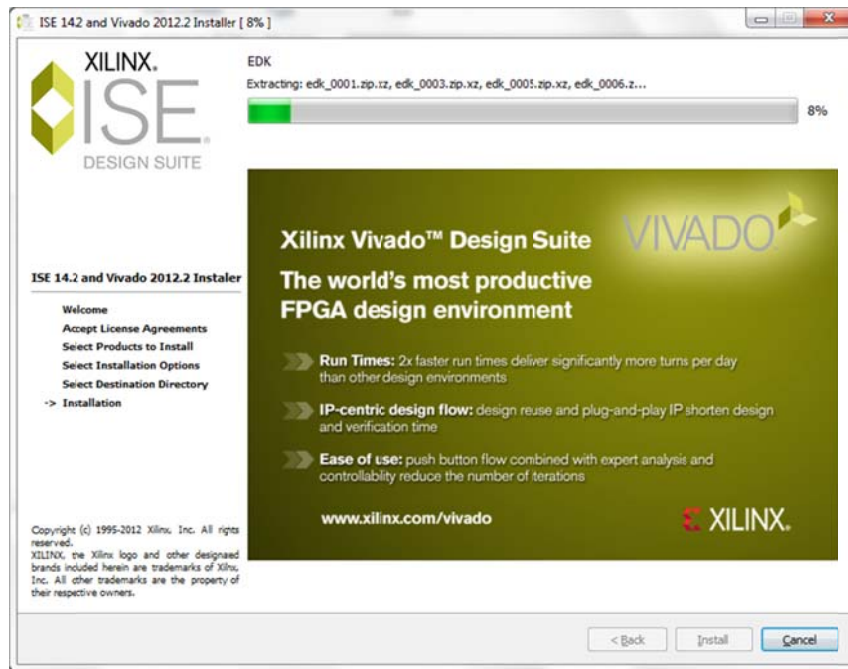
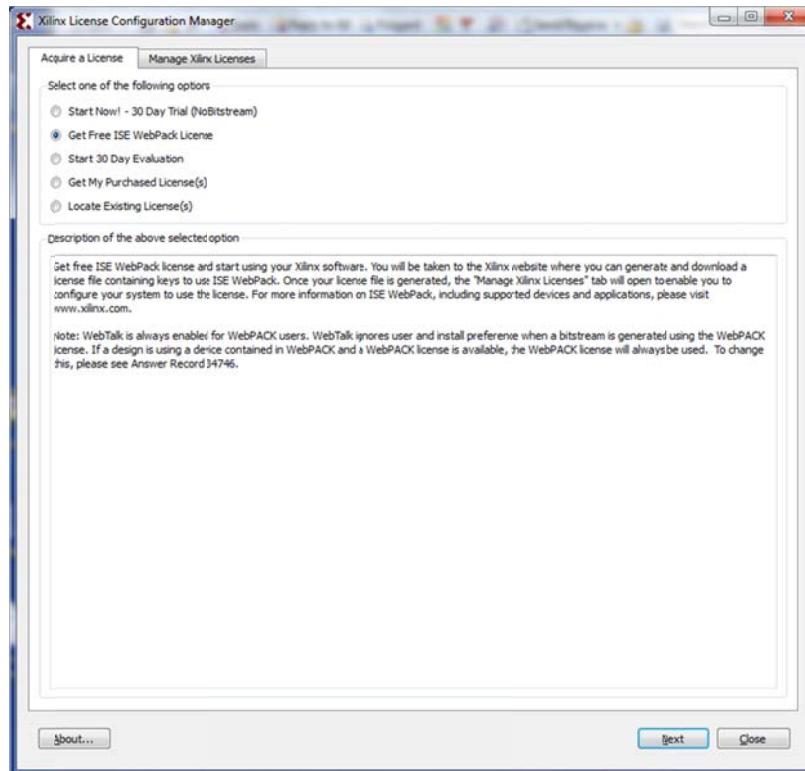

Figure 4A
Figure 5A
3. The installation process will start as shown in Figure 4A. Allow the various drivers and packages to be installed once prompted during the last portion of the installation. Choose the **Free Web Pack License** as shown in Figure 5A, and you have to register through Xilinx website to get a valid license.